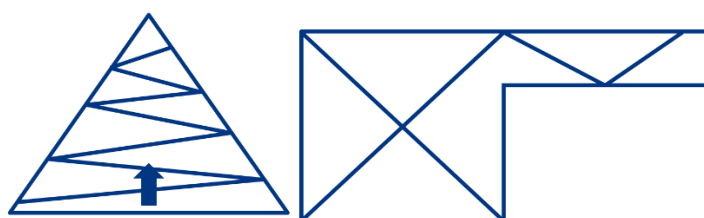

Figure 4b: combination of W, zigzag and cross pattern for collecting soil samples in oddly shaped fields
- If your field is strangely shaped, you can use a combination of zigzag and a cross pattern (see figure 4b). Divide the 40 sub-samples accordingly across the different legs.